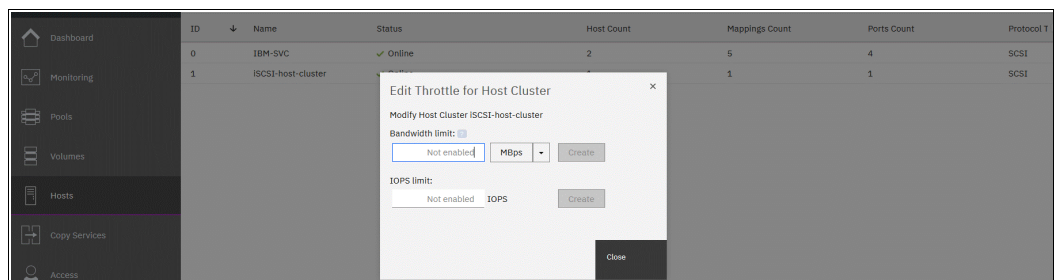

Figure 7-63 Creating a host cluster throttle
3. If there are no individual throttles, a window opens where you can set or edit I/O or data rate limits, as shown in Figure 7-63. Click **Create** to create a throttle, or click **IOPS limit** and click **Save** to change the existing throttle.